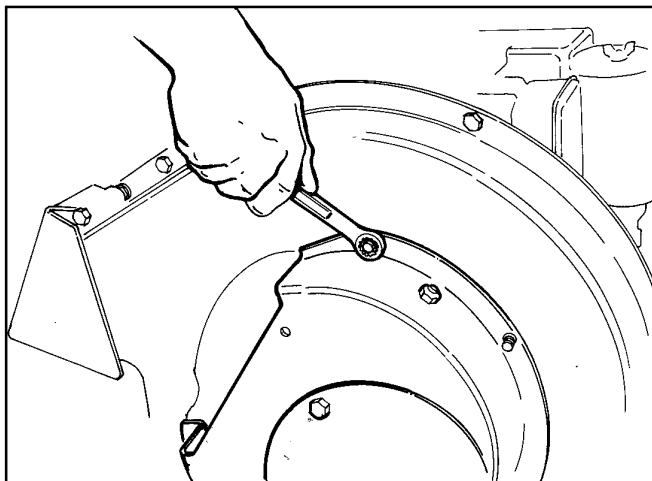

Figure 10. Removing Shredder Hopper
2. Detach the shredder hopper from the rotor housing, leaving the liner and handle in place on the hopper. See Figure 10.
2. See Figure 10. Detach the shredder hopper from the rotor housing leaving the liner and handle in place on the hopper.